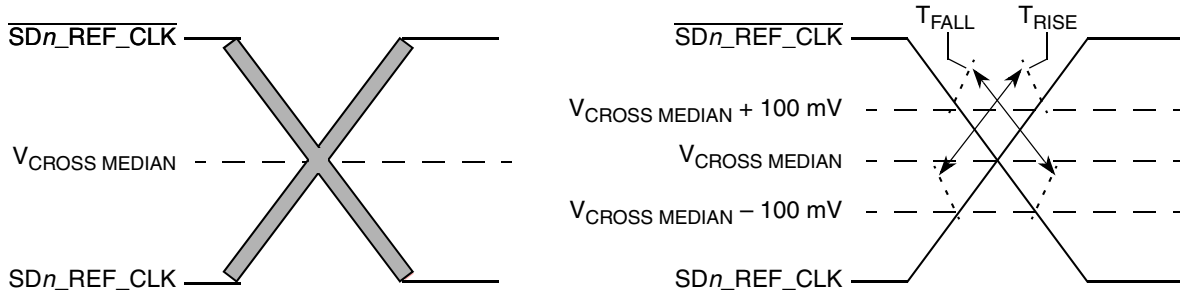

Figure 41. Single-ended measurement points for rise and fall time matching
- Matching applies to rising edge for SD_REF_CLKn and falling edge rate for $\overline{\text{SD_REF_CLKn}}$. It is measured using a 200 mV window centered on the median cross point where SD_REF_CLKn rising meets $\overline{\text{SD_REF_CLKn}}$ falling. The median cross point is used to calculate the voltage thresholds that the oscilloscope uses for the edge rate calculations. The rise edge rate of SD_REF_CLKn should be compared to the fall edge rate of $\overline{\text{SD_REF_CLKn}}$, the maximum allowed difference should not exceed 20% of the slowest edge rate. See Figure 41.